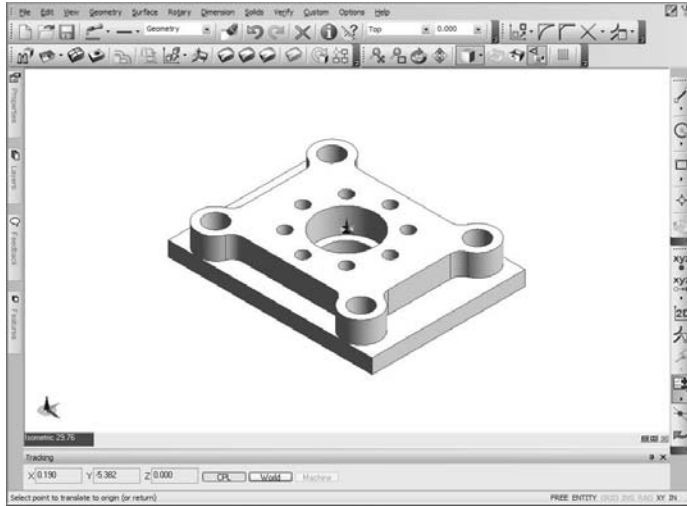

Figure 12 Align Body for Milling
6. Select point to translate to origin (or return). **Use the mouse to left click on the desired origin location.** In our case, it is the center of the 2.0 diameter pocket. This will position the CPL in alignment with the Workpiece Zero location for machining. Finally, right click with the mouse to accept the CPL location. For our model, the display should look like Figure 12 on the following page :